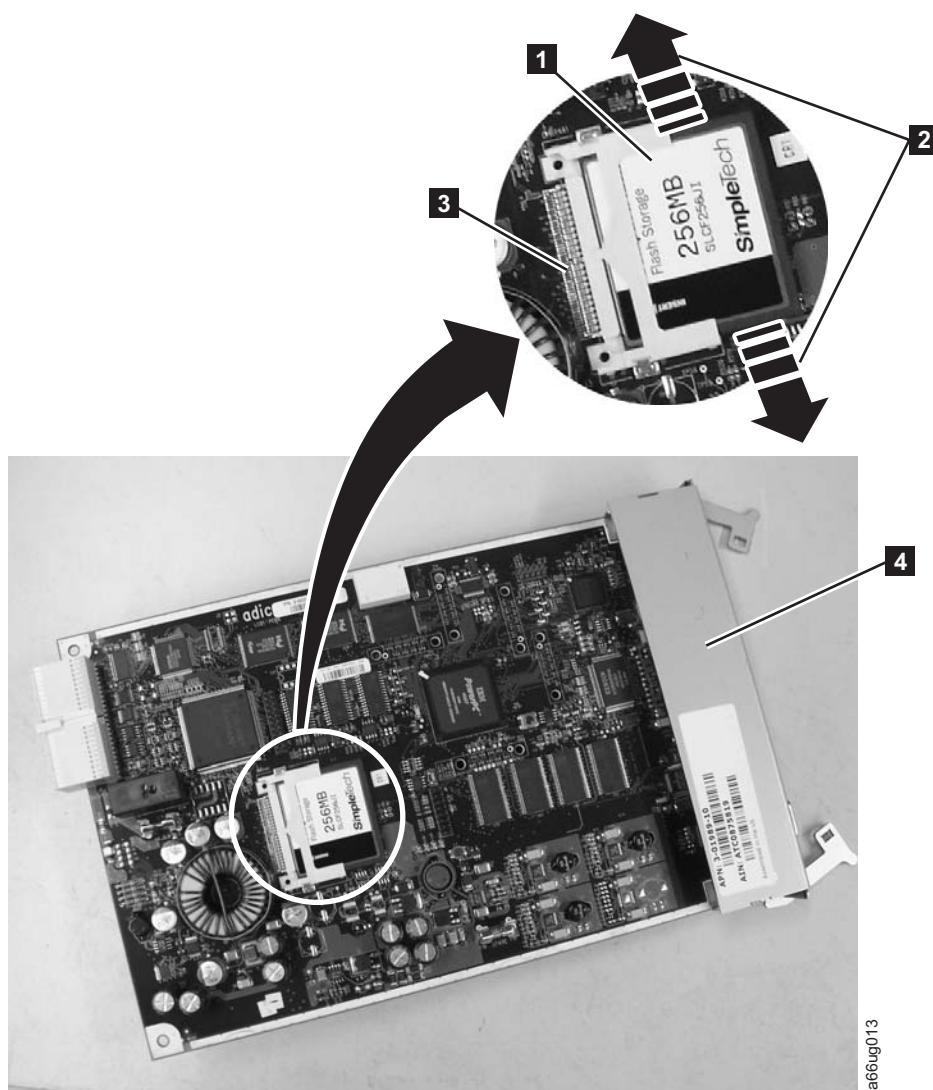

Figure 8-39. Removing the Compact Flash Card from the Library Control Blade
1. Locate the compact flash card component on the LCB board (**1** in Figure 8-39).
2. Without touching any other components on the LCB firmware board, carefully grasp the compact flash card and wiggle it using a gentle, side-to-side motion (**2** in Figure 8-39) until the pins on the compact flash card become
disconnected from the pins on the LCB board (**3** in Figure 8-39 on page 8-41). Then, slowly slide the compact flash card out of the guide slots.
4. If you are installing a new LCB, continue by transferring the old CF to the new LCB. If you are installing a new CF card, continue by installing the new CF card in the old LCB. In either case, install the appropriate compact flash card to the LCB board you are installing with the label up, and pins aligned. Without touching any other components on the LCB board, carefully grasp the compact flash card, and slowly slide it into the guide slots. Continue to push the compact flash card into the guide slots until the pins start to connect. Then hold the LCB board metal connector shield (**4** in Figure 8-39 on page 8-41) with one hand and push the compact flash card into the connector with your other hand. The compact flash card should be firmly seated against the connector (**3** in Figure 8-39 on page 8-41).